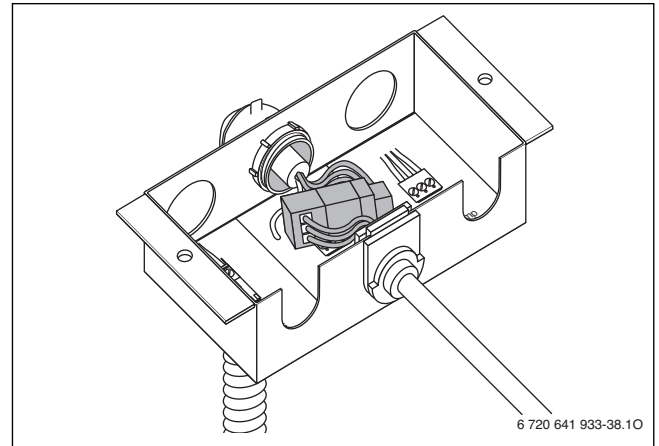

Fig. 55 Cable connected (external DHW tank loading pump or 3-way valve)
- Insert cable into the junction box as shown in Fig. 55.